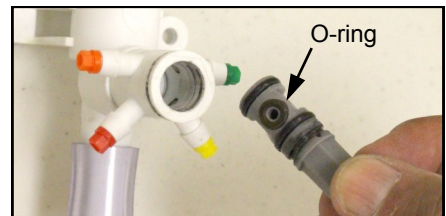

Figure 6
- A. Check condition of o-ring on dial selector knob. **See Figure 6**